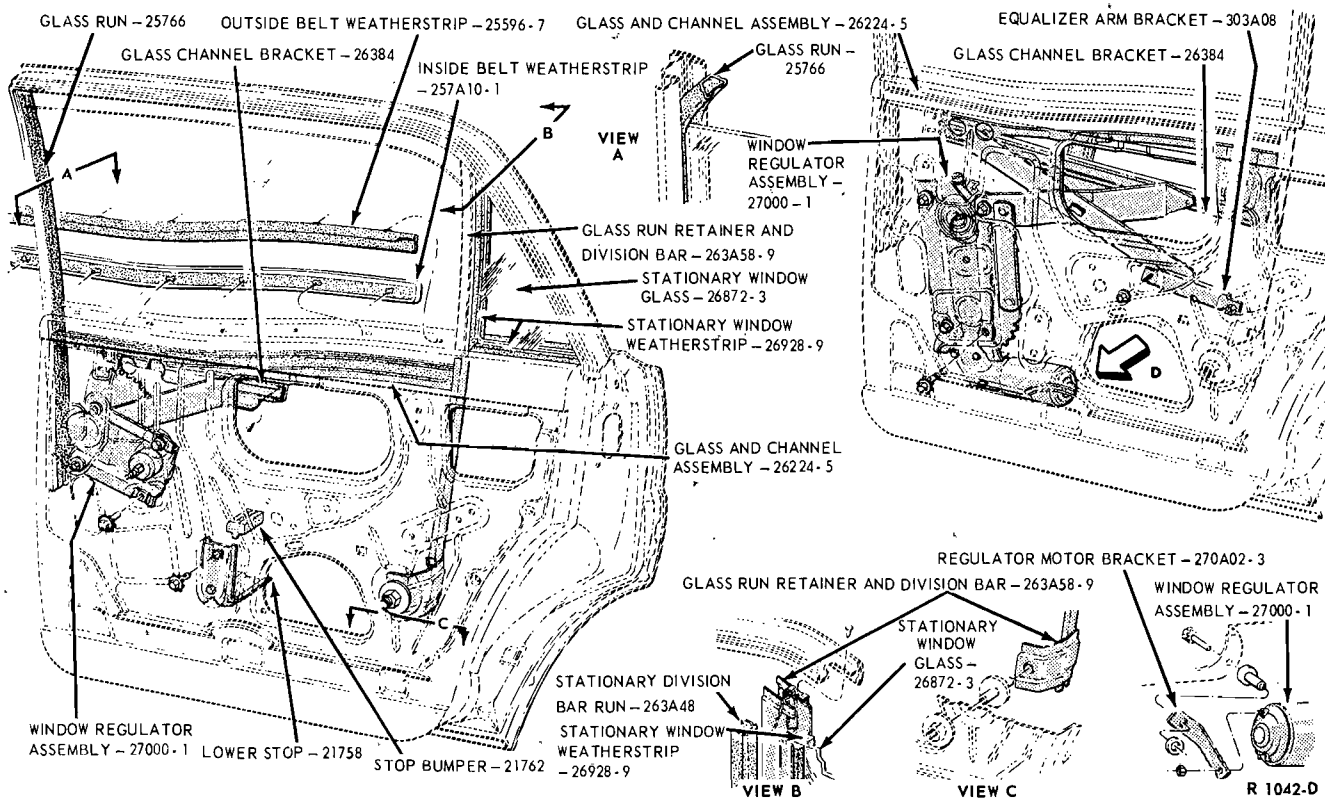

FIG. 6—Rear Door Window Mechanism—Mercury Intermediate, Falcon, Fairlane
2. To obtain proper alignment of retainer and division bar assembly to door window frame, loosen nut and washer assembly C. Drop the glass and channel assembly to its down position and turn screw B clockwise or counterclockwise as required. Tighten nut and washer assembly C securely (Fig. 6).